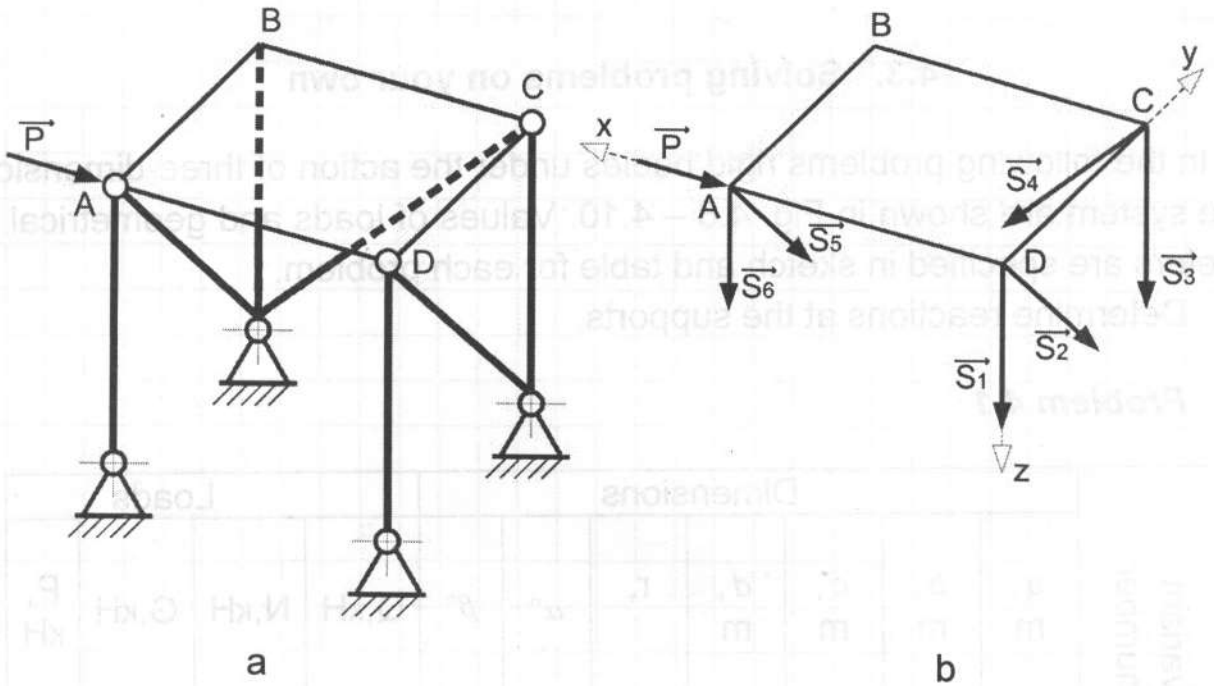

Fig. 4.7
The square plate ABCD of uniform thickness shown in Fig 4.7,a is mounted in horizontal plane by six links. A force  $\vec{P}$  acts on the plate. Determine reactions at the links.
1. FBD (Fig. 4.7,b). The plate ABCD is at the state of equilibrium. Applied force is  $\vec{P}$  only. Motion of the plate is restricted by links so reactions are  $\vec{S}_i, i=1..6$ , reactions are directed along the corresponding links. The force system acting on the plate is general three-dimensional. Let us choose coordi-